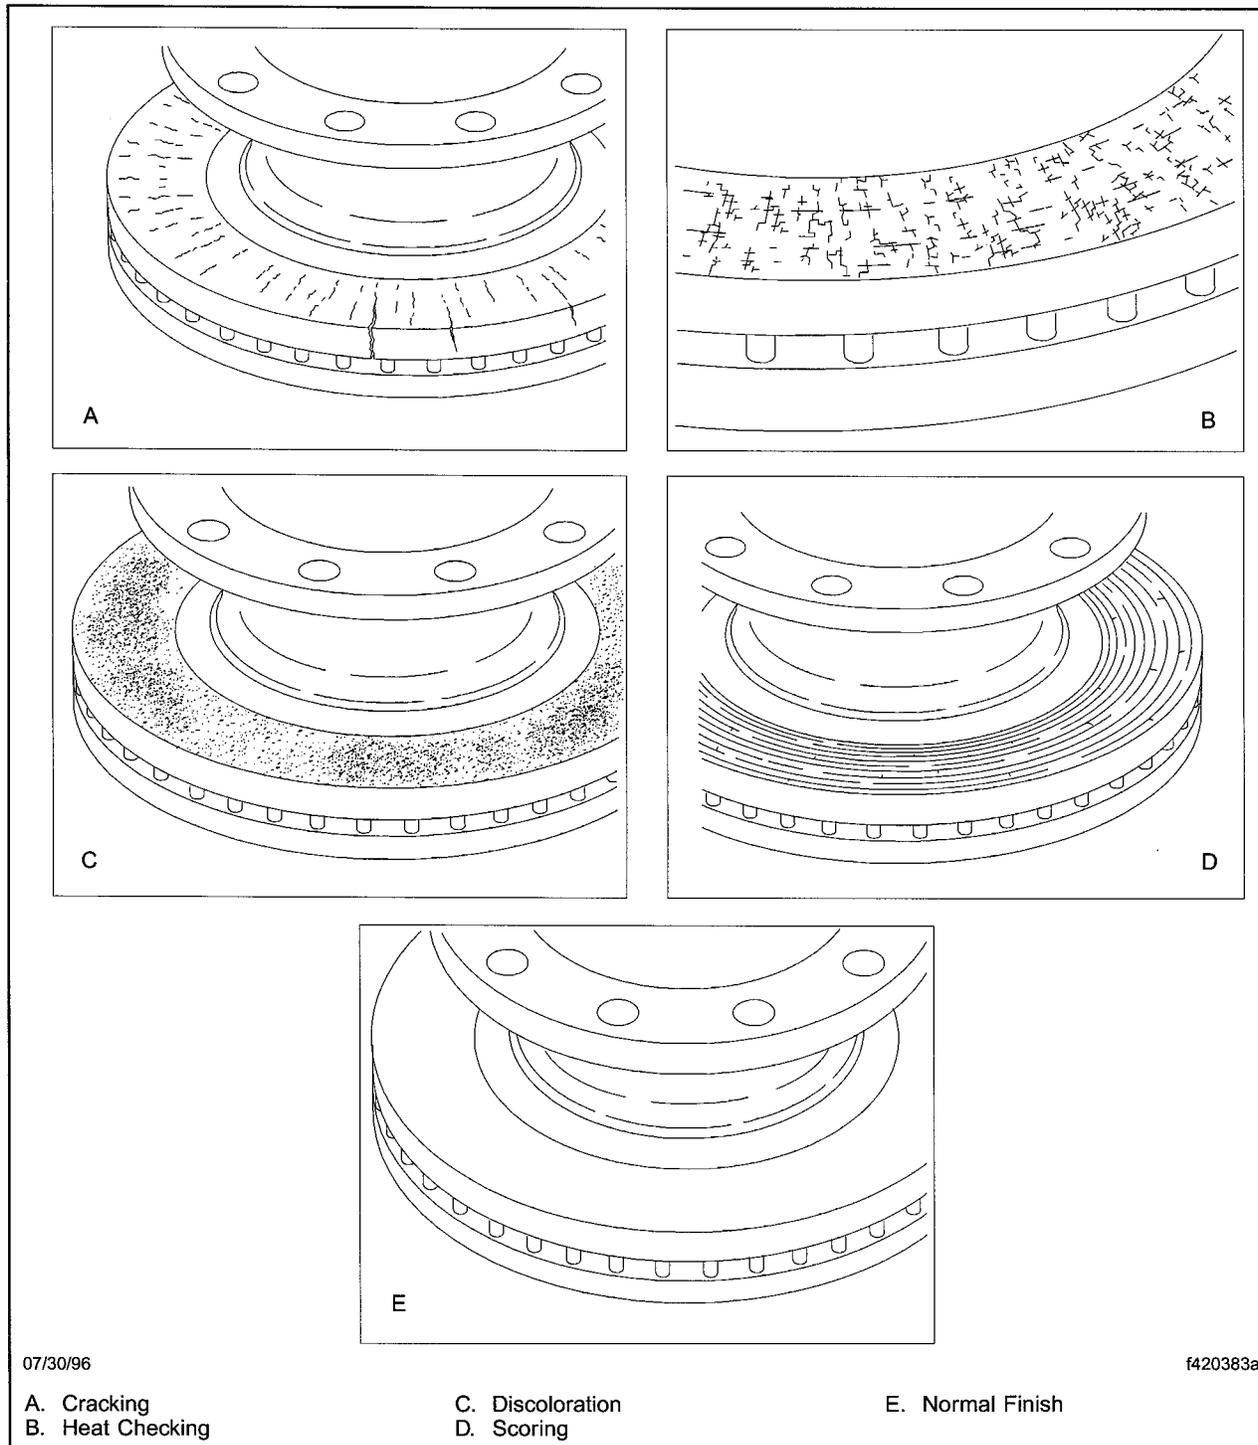

Fig. 6, Rotor Surface Check
17. Inspect the rotor for scoring, warping, cracks, bluing, heat spots, or other damage. See **Fig. 6**. If any damage is found, repair or replace the rotor.